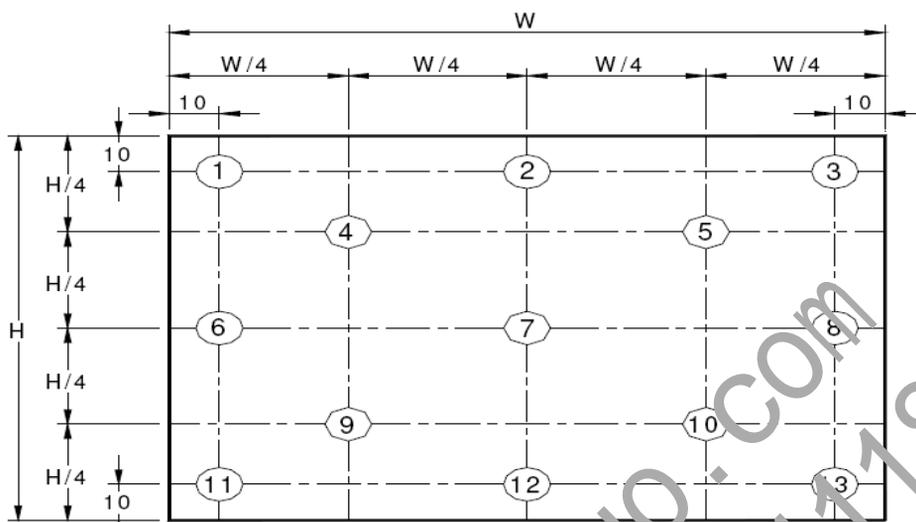

Figure 9. Uniformity Measurement Locations (13 points)
- The White luminance uniformity on LCD surface is then expressed as : $\Delta Y = \text{Minimum Luminance of 5(or 13) points} / \text{Maximum Luminance of 5(or 13) points.}$ (see Figure 8 and Figure 9).
The White luminance uniformity on LCD surface is then expressed as: $\Delta Y5$ = Minimum Luminance of five points / Maximum Luminance of five points (see Figure 8), $\Delta Y13$ = Minimum Luminance of 13 points / Maximum Luminance of 13 points. (see Figure 9).